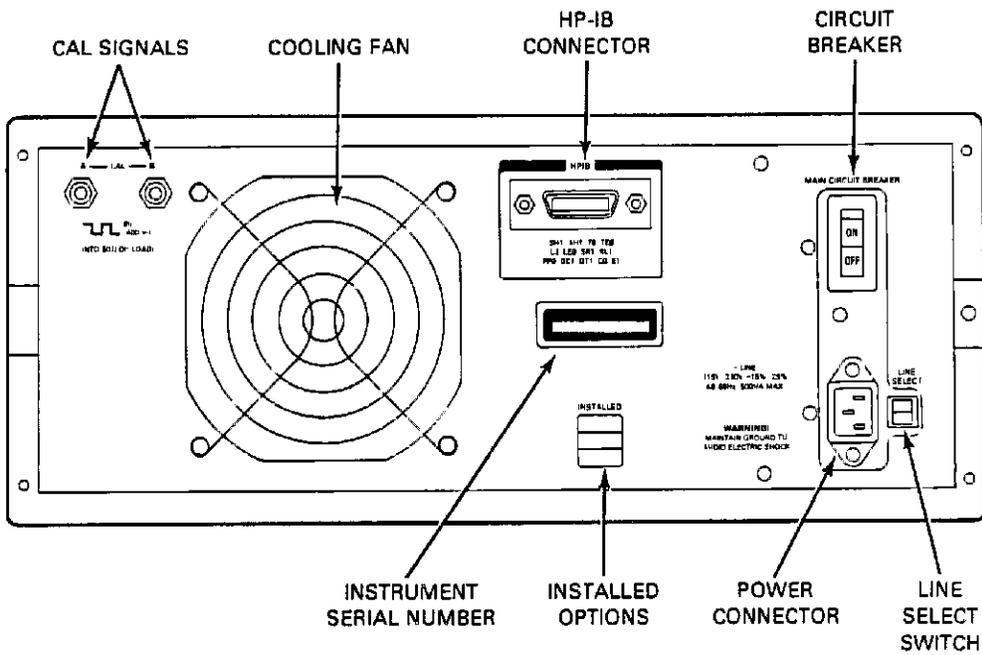

Figure 4-1. HP 54100A/D Rear Panel
*Before connecting this instrument to the AC power source, insure that the line select switch on the rear panel of the instrument is set to the appropriate position (see figure 4-1)*
2. The mains breaker is located on the upper right hand corner of the rear panel (see figure 4-1).